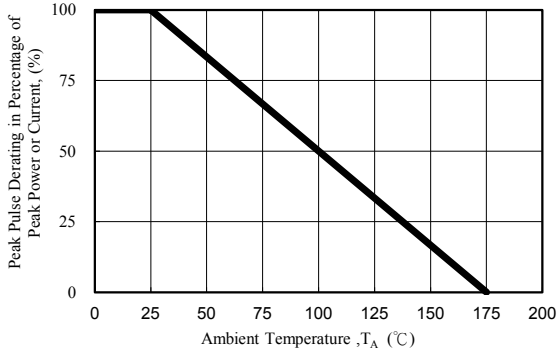
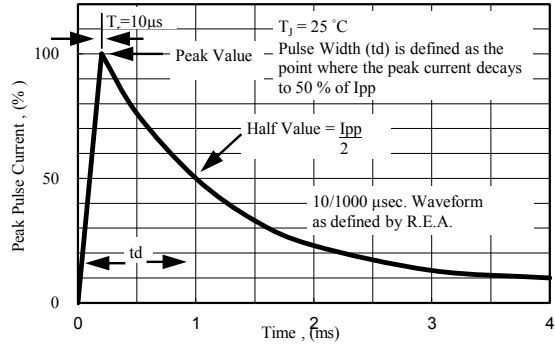

Fig. 1 - Pulse Derating Curve
Fig. 2 - Pulse Waveform
(1)Non-repetitive current pulse per Fig.2 and derated above  $T_A=25\text{ }^\circ\text{C}$  per Fig.1